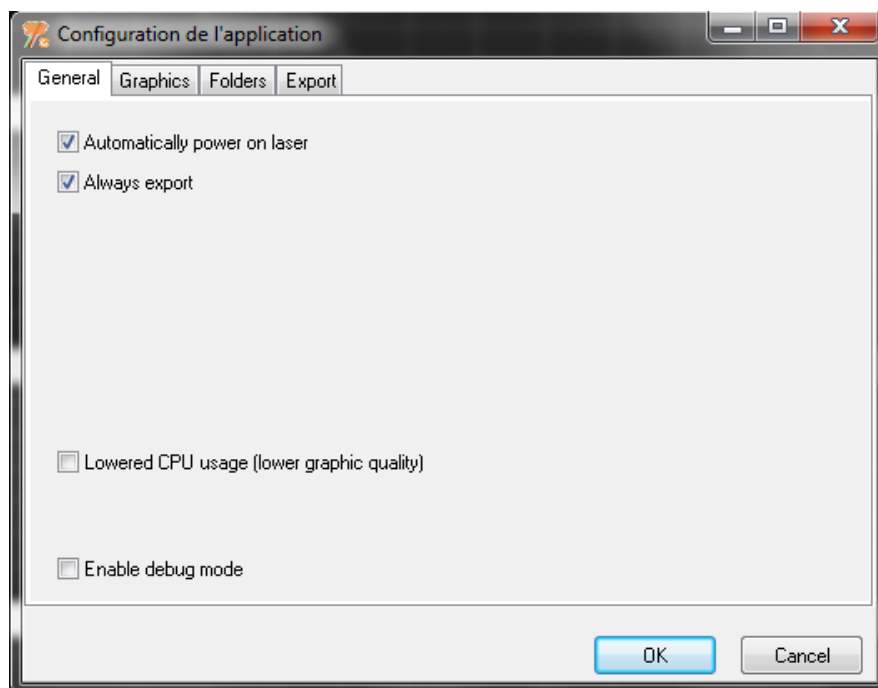

FIGURE 10 : CONFIGURATION, GENERAL TAB
- "General" (Figure 10): Default setting is whether the laser will start up when the software is started (provided the LiDAR is turned on), as well as data export and **debug** mode (cf. section 3.Debug mode). An option for degrading graphics quality is also available for low-powered PCs; this does not change the quality of the data acquired.